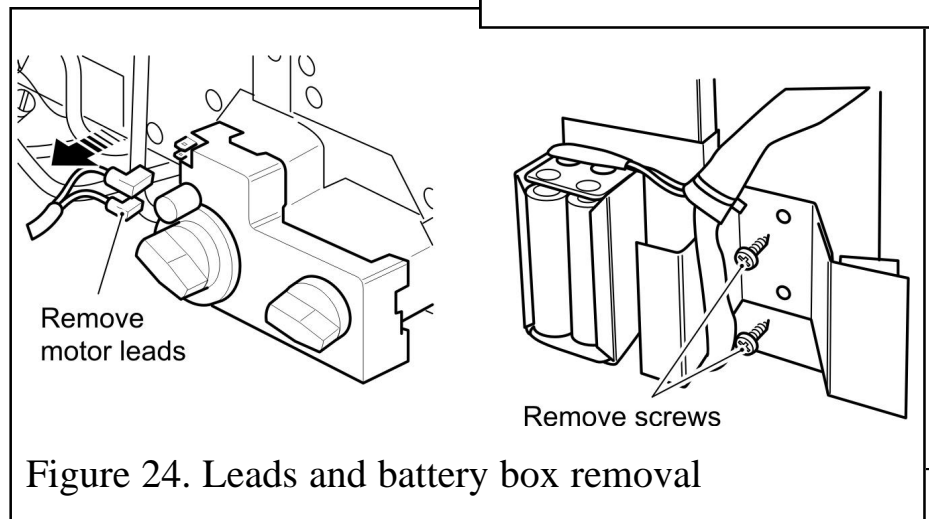

Figure 24. Leads and battery box removal
- Disconnect the two motor leads from the top left of the gas valve (See figure 24).
- Detach the battery box from the fire unit by removing two screws (See figure 24).